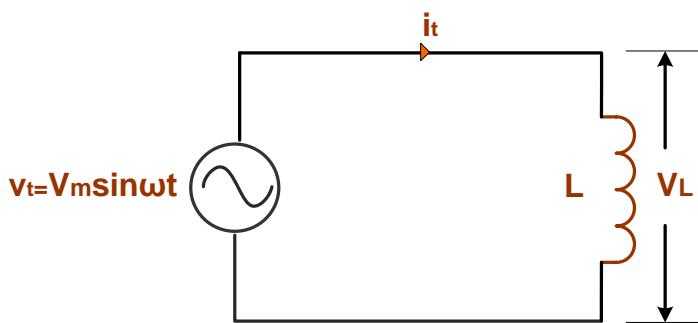

Figure 2.16 Pure Inductor Connected to AC Supply
- The Fig. 2.16 an AC circuit consisting of a pure Inductor to which an alternating voltage  $v_t = V_m \sin \omega t$  is applied.
- As shown in the Fig. 2.16 voltage source